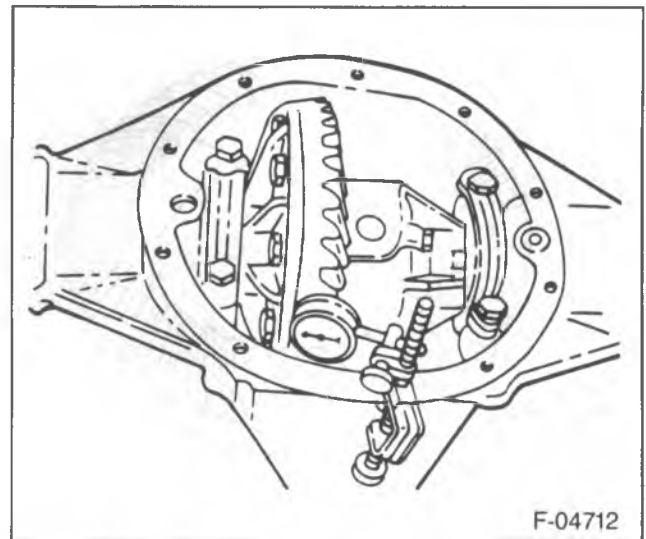

Figure 22—Checking Ring Gear Backlash
- Check and record the backlash at three or four points around the ring gear (figure 22).